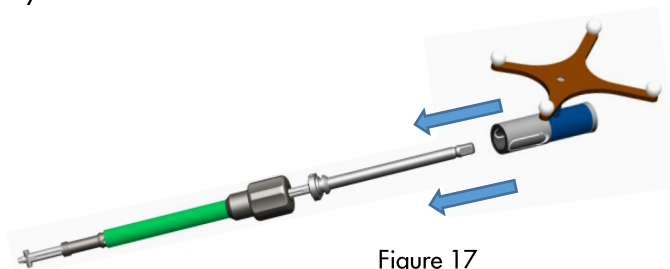

Figure 17
- Remove the Tracker from the simulator instrument and attach it on the screw driver to be used (Figure 17).